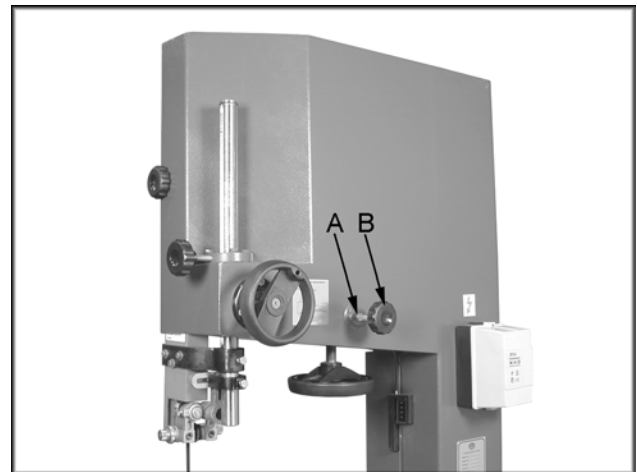

Figure 5
4. If adjustment is necessary, loosen the hex nut (A, Figure 5).
5. Adjust tracking by turning the knob (B, Figure 5) in 1/4 turn increments. Rotate wheel forward, and observe the position of blade on the wheel. Rotating the knob counter-clockwise will move the blade towards the front of the wheel. Rotating the knob clockwise will move the blade towards the back of the wheel.
7. Tighten the hex nut (A, Figure 5) while holding knob (B, Figure 5).